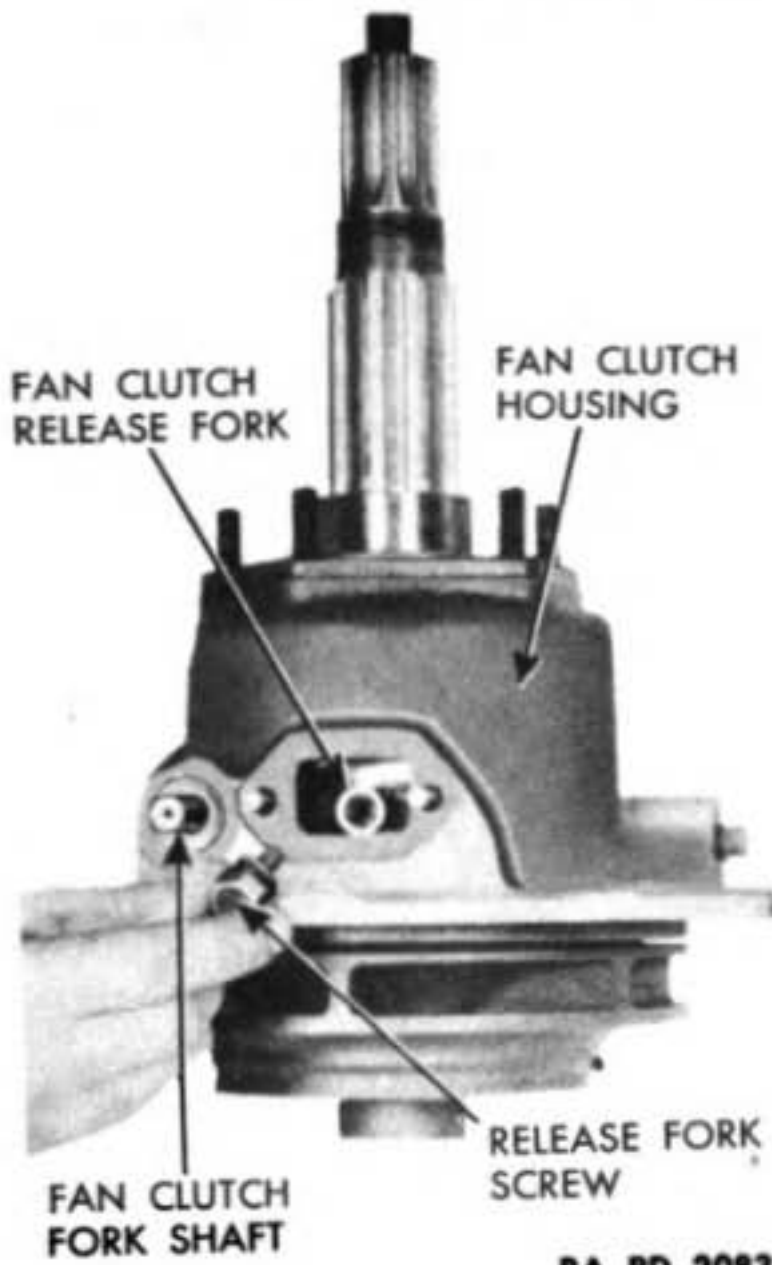

**Figure 100 —
b. Remove Fan and Pump Shaft Assembly. Remove five nuts and lock washers attaching pump bearing retainer, and remove retainer with oil seal (fig. 99). Drive out impeller retaining pin with a punch (fig. 100). Remove four nuts and lock washers attaching two fan clutch housing covers, and remove covers and gaskets (fig. 101). Reaching through housing cover openings, remove two fan clutch release fork screws and lock washers (fig. 102). Supporting fan clutch housing on two blocks of wood, drive fan and pump shaft out of impeller with suitable driver (fig. 103). Fan and pump shaft assembly can now be lifted from fan clutch housing (fig. 104).